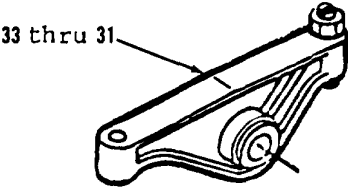

Figure 3-54.
- 14. Install dowel (35) in bracket (34). Dowel (35) must extend 0.23 inch out of bracket (34).
- 15. Install bracket (34) on shaft (55).
- 16. Install screw (33) and lock nut (32) in arm (31). Loosely tighten lock nut (32).
- 17. Install items 33 thru 31 as an assembly (Figure 3-54).